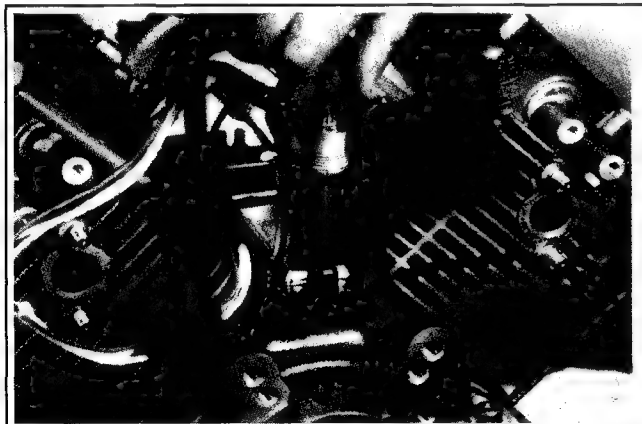

Figure 9-35. Removing Crankcase Breather Cover Screws.
1. Remove the two hex. flange screws securing the breather cover. See Figure 9-35.